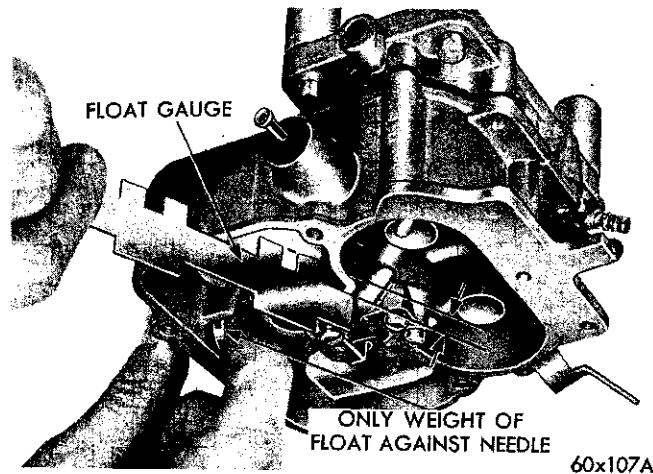

Fig. 8—Measuring the Float Setting
(1) To correctly set the float height when the carburetor is being overhauled, install the floats with the fulcrum pin and pin retainer in the main body.
(2) Install the rubber-tipped needle, seat and gasket in the body and tighten securely.
(3) Invert the main body so that the weight of the float only is forcing the needle against the seat. Hold finger against the retainer to fully seat the fulcrum pin.
(4) Using Tool T109-282, or a "T" scale, measure the float, as shown in Figure 8. There should be  $\frac{1}{4}$  inch from the surface of the fuel bowl to the crown of each float at the center.